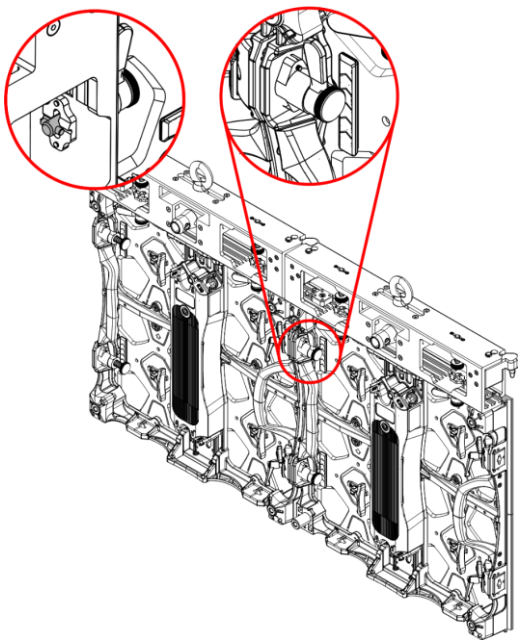

Fig. 48
- 03) Make sure that the **pins (C)** of the top **locking mechanism (16)** are firmly locked in the **fast-lock opening (11)** of the previous LED screen, as shown in Fig. 48.